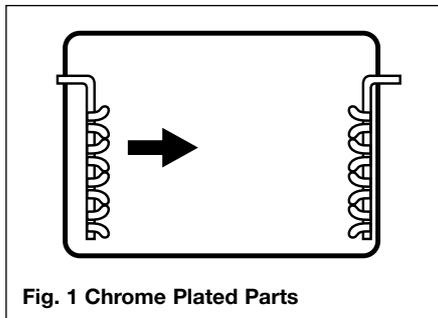

Fig. 1 Chrome Plated Parts
- Note: When positioning the pan support, ensure that the fingers are central to the burners (Fig 1 of the user instruction manual).
### Chrome plated parts (Fig 1)
Do not use abrasives or polishes. Use a moist soap pad, eg; Brillo. Shelf runners can be removed for cleaning. Grasp the runners and slide out of the hanging holes as shown in fig 1.